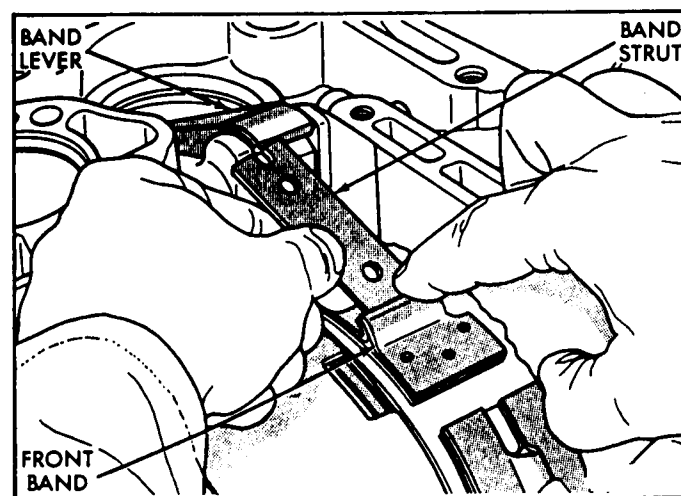

Figure 15
27. Squeeze front band together and remove band strut, as shown in Figure 15.